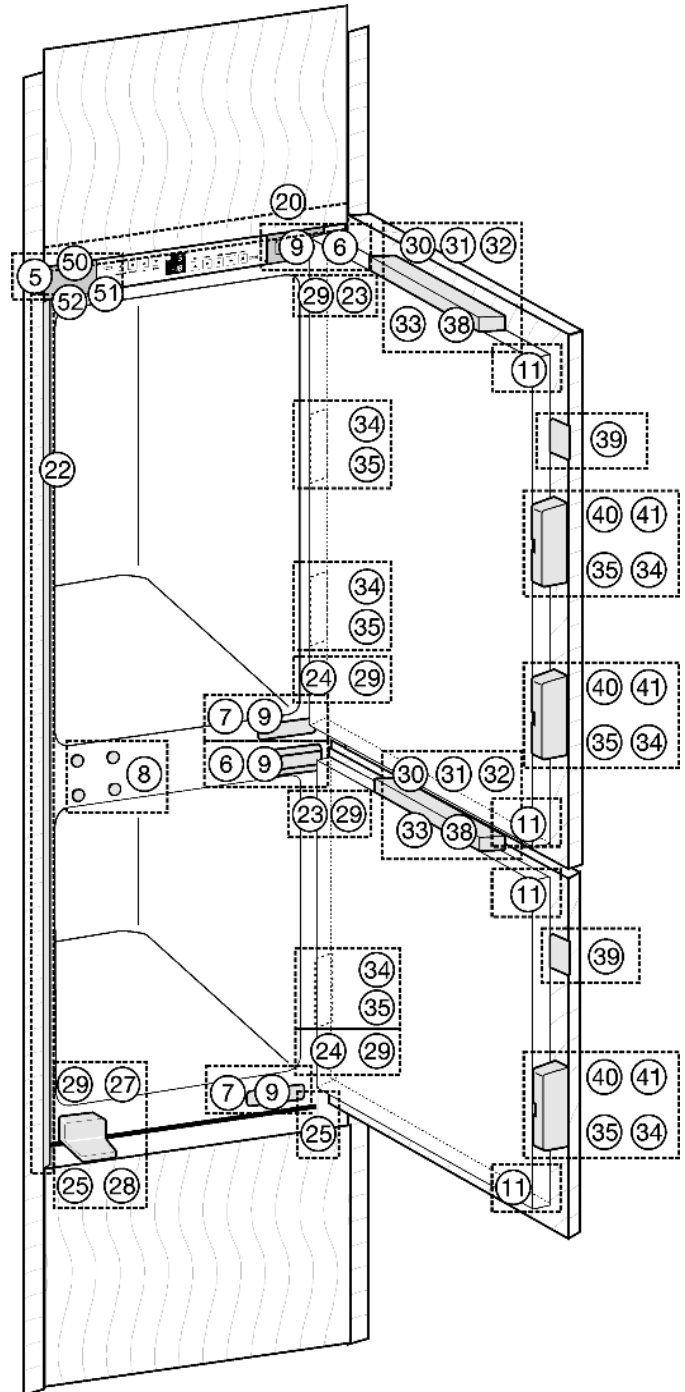

Fig. 10
- ▶ Remove covers Fig. 10 (5,6,7).
- ▶ Clip spacer *Fig. 14 (23)* onto the upper hinge and spacer *Fig. 10 (24)* onto the lower hinge.